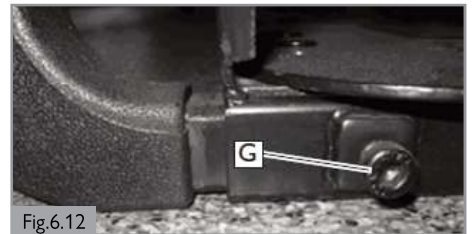

Fig.6.12
1. Locate the 2 armrest fasteners (G) on each side of the armrest receiver bracket. (Fig. 6.12)